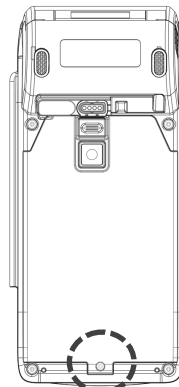

Figure 11
STEP 2: After install the battery, close the bottom cover with screw as Figure 11.